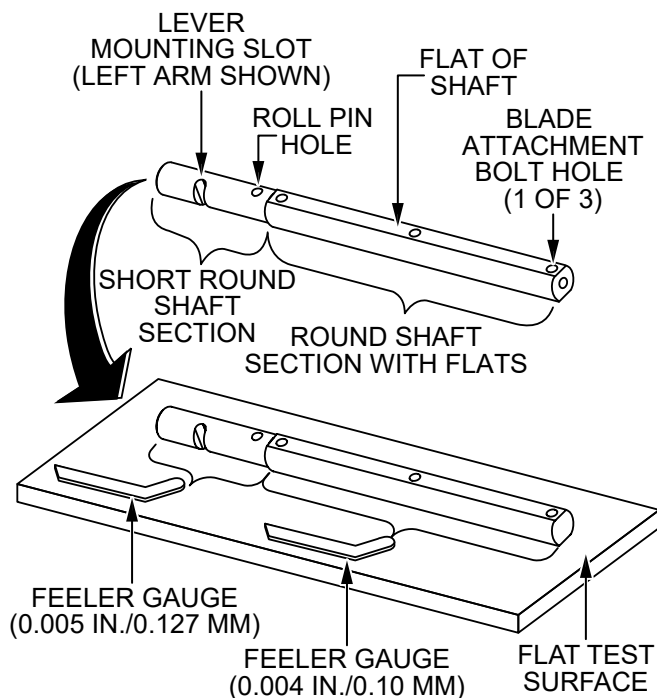

Figure 48. Checking Trowel Arm Straightness
1. Place the trowel arm onto a thick steel plate, granite slab, or any other surface which is flat and true (Figure 48).
2. Check each of the flat sides of the trowel arm (Figure 48). A **feeler gauge** of **0.004 in. (0.10 mm)** should not pass between the flat of the trowel arm and the test surface along its length on the test surface.
3. Check the clearance between the **short round shaft section** and the test surface as one of the flat sections of the arm rests on the test surface (Figure 48). Rotate the arm to each of the flat sections and check the clearance of the round shaft. Use a **feeler gauge** of **0.005 in. (0.127 mm)**. Each section should have the same clearance between the round of the trowel arm shaft and the test surface.